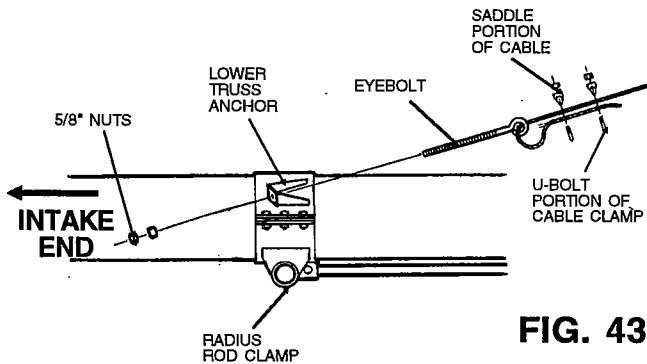
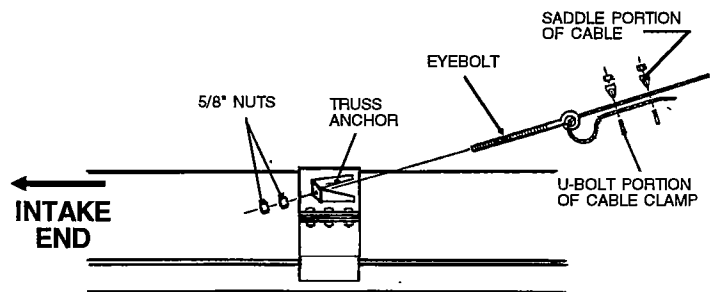

FIG. 43
FIG. 44
Step 4. Fasten radius rod clamp to the auger tube using a heavy duty halfband and six 3/8" x 1 1/2" long (grade 5) hex head capscrews with nylon locknuts. On 52', 62' and 72' models the heavy duty halfband will have truss anchors welded to it. The truss anchors must be positioned as shown in Fig. 43 on page 36.
Step 5. On 72' models another cable truss anchor has been attached to the top band of the track during Step 1. See Fig. 44 on page 36 for details.
Step 12. Install the eyebolts into the lower truss anchor with the eye toward the discharge end of the auger. Install two nuts on each eyebolt. The 52' and 62' models use two eyebolts. See Fig. 43. The 72' models use four eyebolts. See Fig. 44.
Step 16. Attach truss cables to eyebolts using two cable clamps per each cable. **NOTE:** Secure the clamp u-bolt against loose end of cable. See Fig. 43 and/or Fig. 44. on page 36